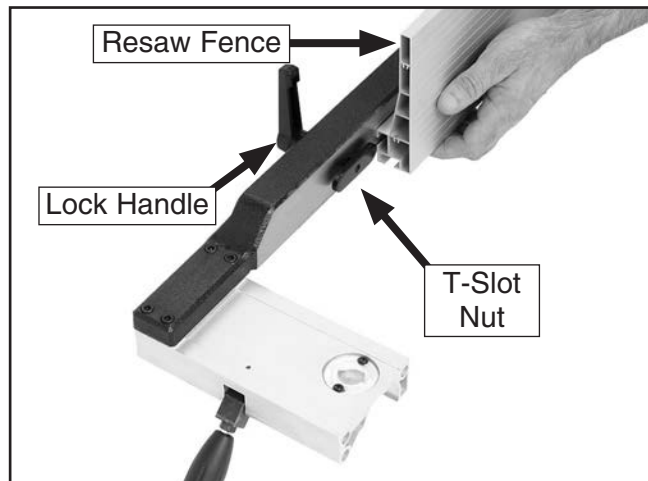

Figure 14. Attaching resaw fence to standard fence.
- Slide the resaw fence over the T-slot nut, as shown in **Figure 14**, so the T-slot nut fits inside the channel of the resaw fence, then tighten the lock handle.